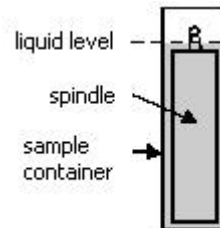

Fig. 11: Full LCP adapter.
- Fasten the circulation jacket (J) to the connector (G) (figure 11).
- Fasten the connector (G) to the hole at the back of the viscometer metallic vase.
- Connect the hook (H) and the spindle (L).
- Insert the spindle (L) in the circulation jacket, and screw it in to the viscometer axle by turning it clockwise.
- Close the sample (K) container with the bottom stopper (M).
- Insert the sample container (K) by turning it gently, in the circulation jacket (J). Insert the screw (L) in the lower stopper (M), and screw it to the viscometer axle by turning it counter-clockwise.
- Place the upper stopper (N) over the sample container.